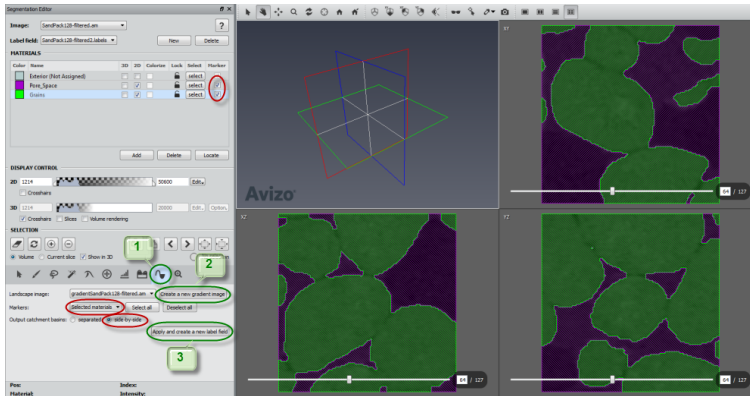

Figure 4.66: Apply Segmentation Editor watershed.
- Press *Apply and create new label field* (see Figure 4.66).